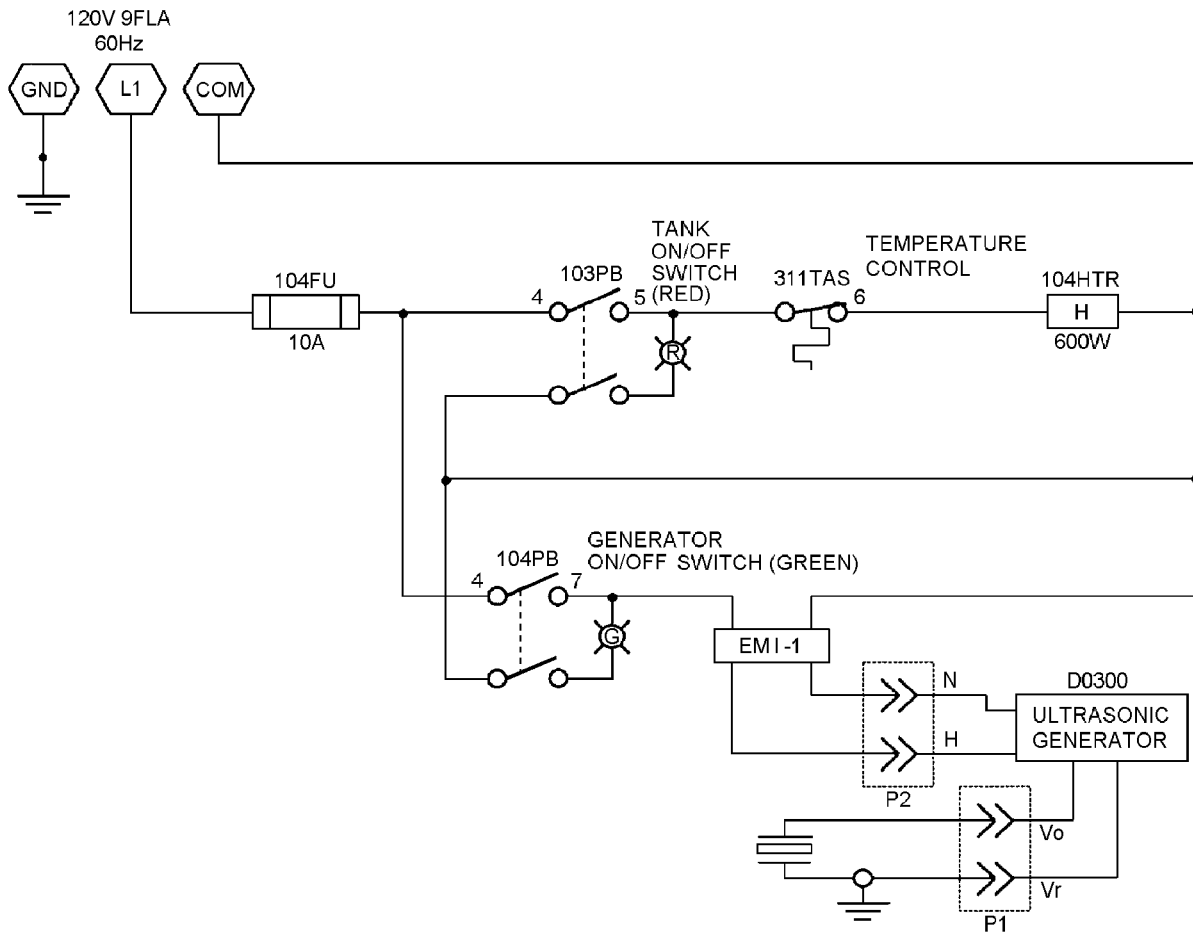

Figure 4-2. Wiring Diagram - Ultrasonic Navy Oxygen Cleaning System
5. Temperature Control Knob (5). For adjusting the temperature from a range of 32°F to 212°F (0°C to 100°C.)
6. Generator (GREEN) ON/OFF Switch (6). For turning the ultrasonic mechanism on.
7. Fuse Receptacle (7)
8. Electrical Receptacle (8). The unit operates using 110/115 volt 60 Hz power. See figure 4-2 for wiring diagram of the ultrasonic tank.
9. Stainless Steel Drainage Valve (9)